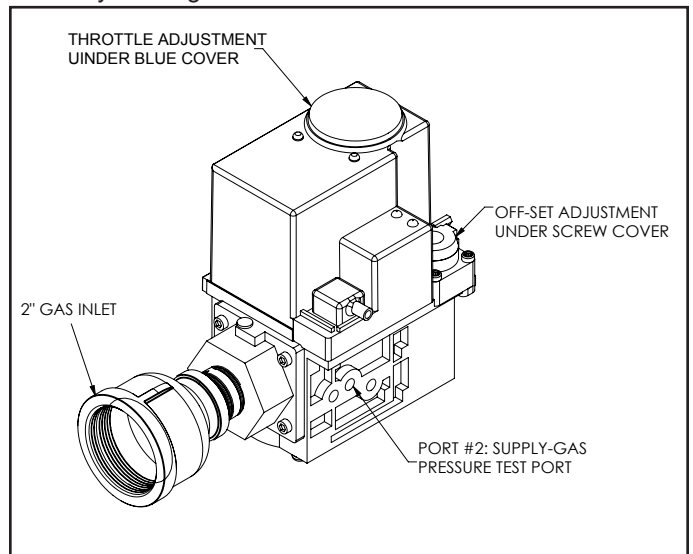

Figure 34. Location of Gas Supply Pressure Test Port
4. Wait five (5) minutes for any residual gas to clear.
5. Connect manometer to the supply gas pressure port on the gas valve see **Figure 34**.